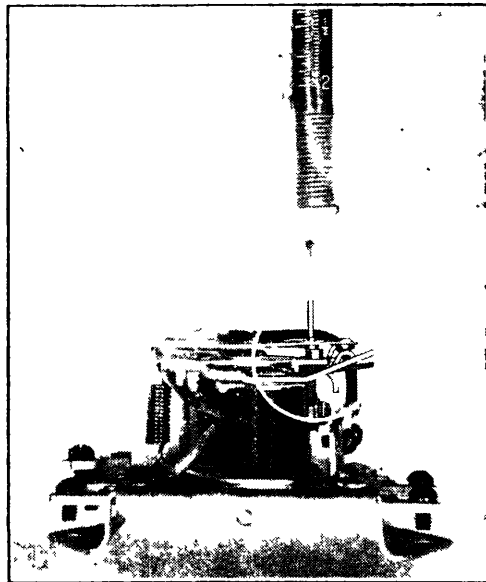

Fig. 1
2. Adjust regulator contacts to meet squarely, and with a pressure of from $2\frac{3}{4}$ to $3\frac{1}{2}$ ounces. Adjust pressure by carefully bending the flat spring which carries the upper contact and fiber bumper. The contact tension should be read the instant the points separate, using a scale hooked to spring at point directly in line with contacts. (See Fig. 1.) (The scale should not be hooked at end of spring near fiber bumper.)